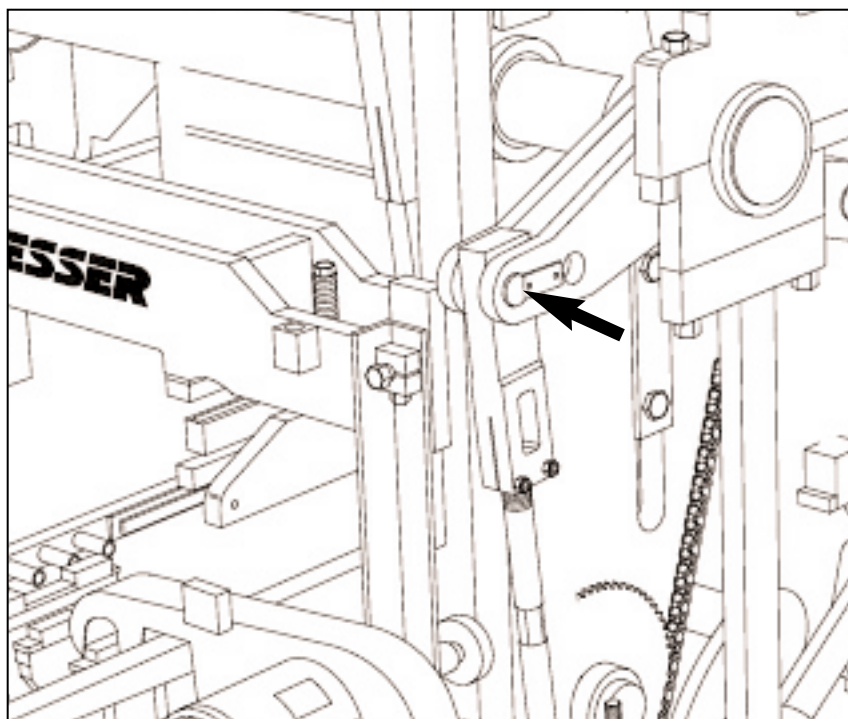

Figure 4.56 PALLET RECEIVER SHAFT POSITION.
4.4.4 The following items should be positioned as shown on figures 4.56 and 4.57:
- a. Pallet receiver shaft - position pins in outside holes (long stroke)(see figure 4.56).